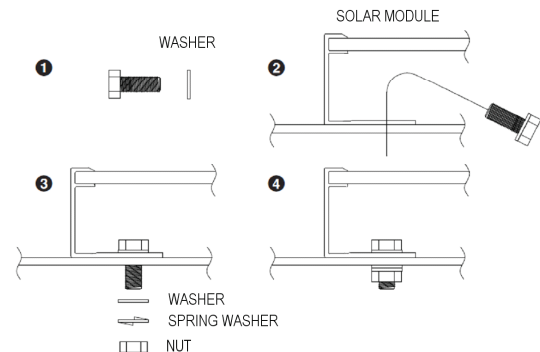

Figure 6
Mounting Using Frame Bolt Holes (Figures 6, 9 & 10)
The modules may be fastened to a support using the bolt holes in the bottom of the frame at location "C", as shown in Figure 9 and 10 (back view of the module) and Figure 6 (mounting detail). The module should be fastened with four (4) M8 (5/16") bolts. Recommended torque value is 12.5 N·m. For your reference, please use the washer specified as below for the minimum requirement: